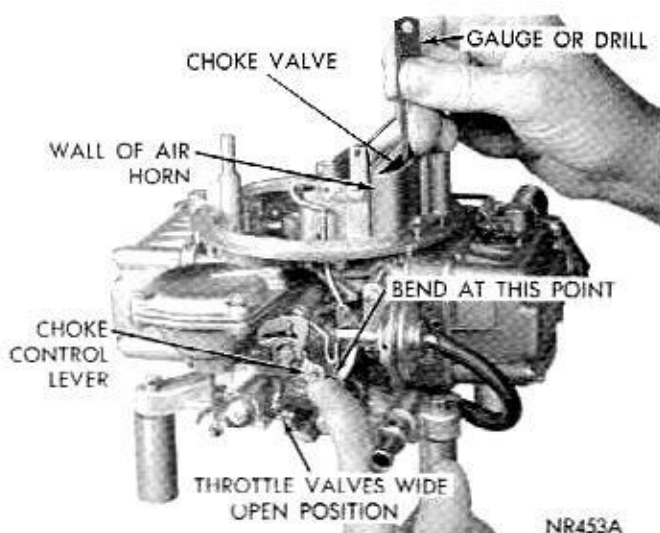

Fig. 19—Choke Unloader Adjustment (Wide Open Kick)
(1) Qualify the choke control lever, if necessary. (See Qualifying Choke Control Lever Paragraph).
(2) Hold the throttle valves in the wide open position. Insert the specified drill between the upper edge of the choke valve and the inner wall of the air horn (see specifications).
(3) With a finger lightly pressing against the choke control lever, a slight drag should be felt as the drill is being withdrawn. If an adjustment is necessary, bend the indicated tang until correct opening has been obtained (Fig. 19).